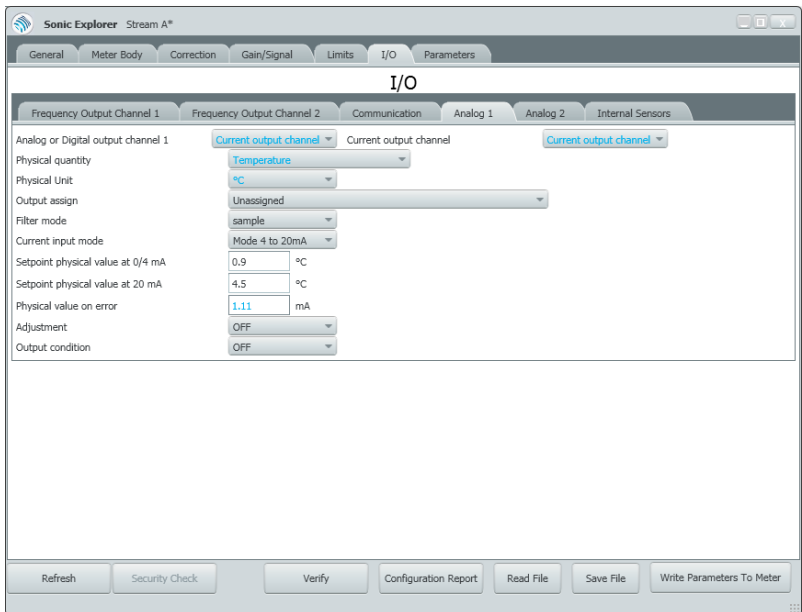

Figure 20-8 Input/Output Configurations
- ✓ Input/Output configuration window will be displayed. Please see Figure 20-8 below for a screenshot of the I/O configuration options.